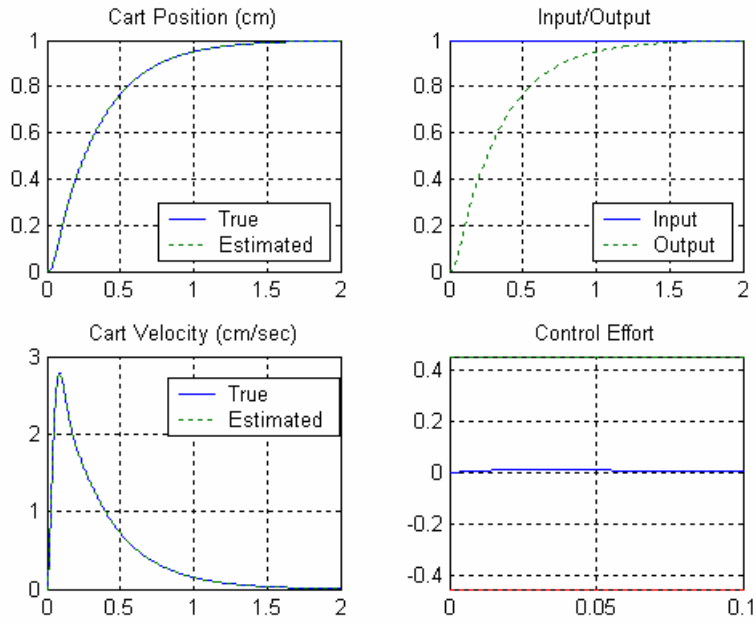

Figure 3. Results for Problem 3e.
e) Implement (Simulink/Matlab) a state observer with state variable feedback configuration that forces the system to be a type one system for the one degree of freedom system with the state model on the web. Utilize an lqr controller, the last Q penalty value is a penalty on the new (augmented) state. Use the command $\mathbf{k} = \text{lqr}([0.1 \ 0 \ 1], \mathbf{I})$. To determine the closed loop poles type $\mathbf{p} = \text{eig}(\mathbf{A}-\mathbf{B}*\mathbf{K})$. Set the observer poles equal to 2.5 times the state feedback poles ($2.5*\mathbf{p}$). Set all initial states (observer, plant, and augmented state) to zero. You should get results similar to those displayed in Figure 3. Turn in your plot and Matlab/Simulink code.